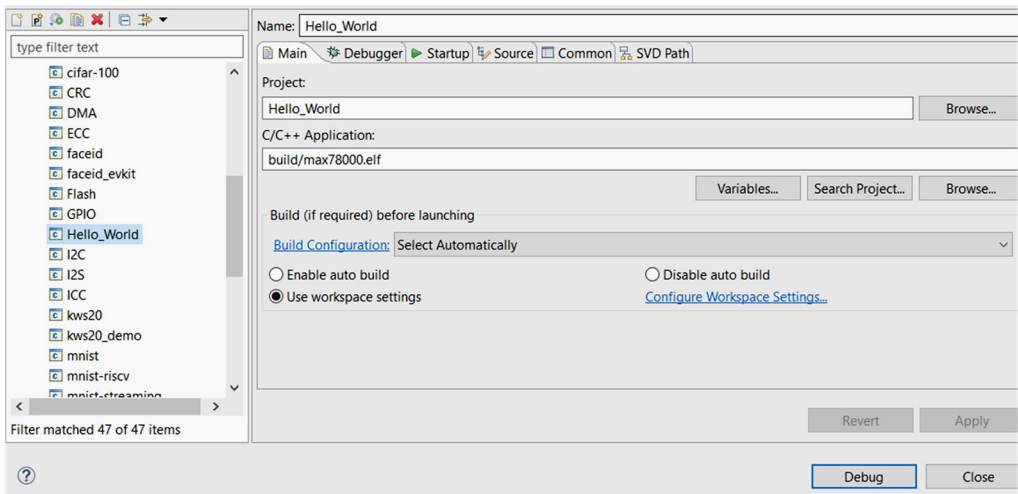

Figure 3.8 Debug Configuration
- Click **GDB OpenOCD Debugging** and then click **Hello_World** (Figure 3.8)